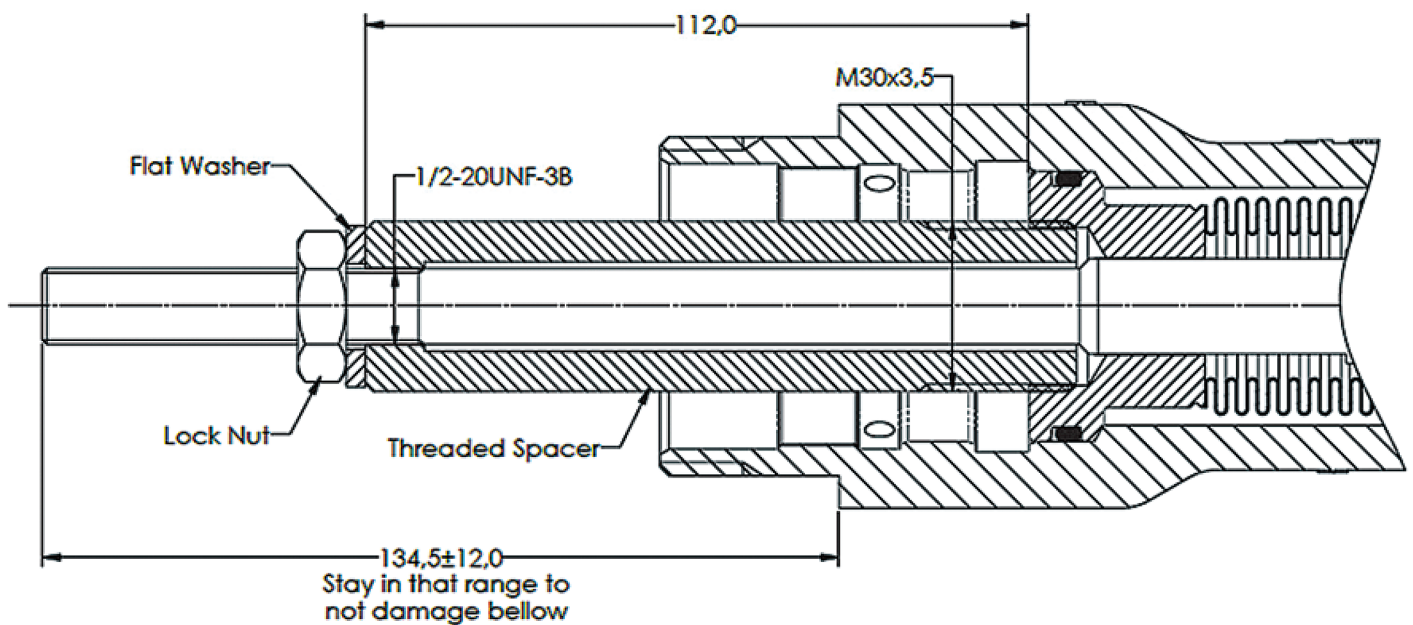

Figure 14 - Bellow and Stem Sub-Assembly Pulling Out Tooling
- Remove stem-bellow S/A (B124) by the top of the bonnet extension (B007). Use tooling shown in Figure 14 on page 22 to avoid damaging/breaking bellow during disassembly.
- Insert the new stem-bellows sub-assembly (B124) through the top hole into the bonnet extension (B007). Use tooling shown in Figure 14 on page 22 to avoid damaging/breaking bellow during assembly.